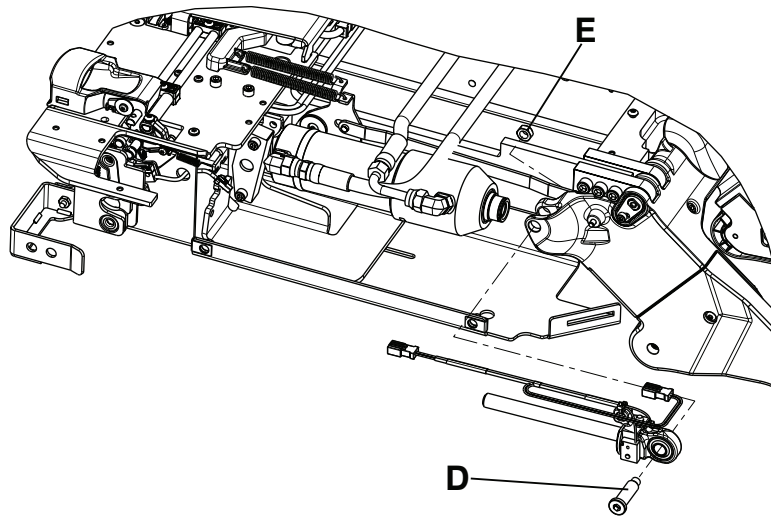

Figure 15 – End cap cylinder pin and nut locations
8. Using a 1/4" hex wrench and a 1/2" combination wrench, remove the end cap cylinder pin (D) and nut (E) (Figure 15).